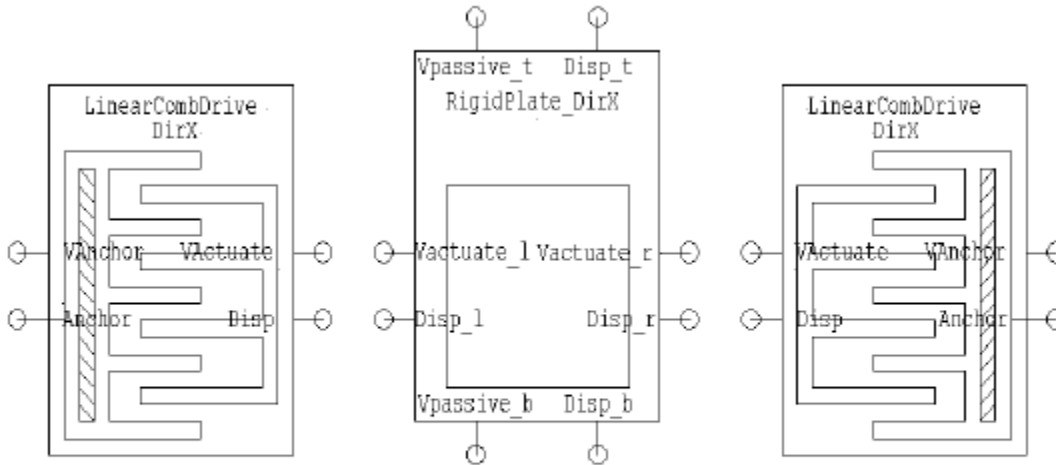

Figure 2: Aligning the comb-drives to the plate
- ✂ Move the comb-drives so that their connection pins, represented by circles, line up with the pins on the plate (**Figure 2**).